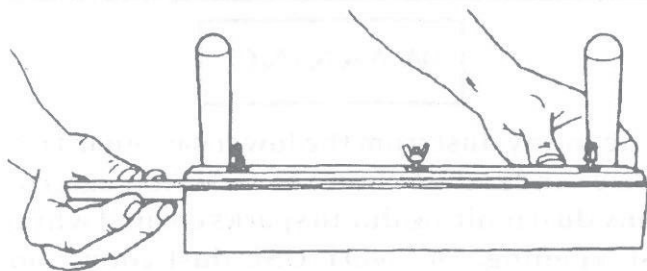
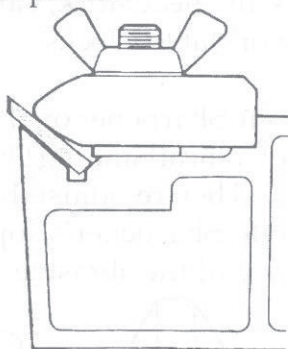
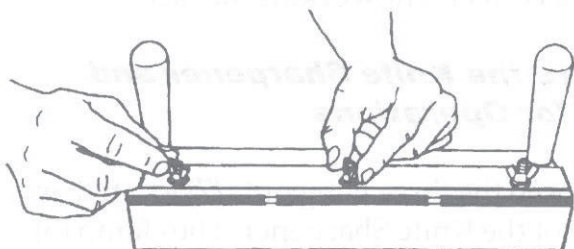

Figure 4
Figure 5
Figure 6
9. Stand behind the Knife Sharpener so the cutting edge of the knife faces away from you, as in Figure 4. Insert a planer or jointer knife between the clamp and the Knife Sharpener body. The sharp edge of the knife should point up, as shown in Figure 5. A 12" Planer Knife (see Figure 4) will take the full length of the Knife Sharpener. All three of the 4" jointer knives (see Figure 6) should fit the full length of the Knife Sharpener.
8. Loosen the three wing nuts (7) located on top of the Knife Sharpener. The clamp (5) should lift from the Knife Sharpener's body (1).
9. Stand behind the Knife Sharpener so the cutting edge of the knife faces away from you, as in Figure 4. Insert a planer or jointer knife between the clamp and the Knife Sharpener body. The sharp edge of the knife should point up, as shown in Figure 5. A 12" Planer Knife (see Figure 4) will take the full length of the Knife Sharpener. A three of the 4" jointer knives (see Figure 6) will fit the full length of the Knife Sharpener.
10. Securely tighten all three wing nuts. The blade should be located so that a wing nut secures each end, as shown in Figure 6.